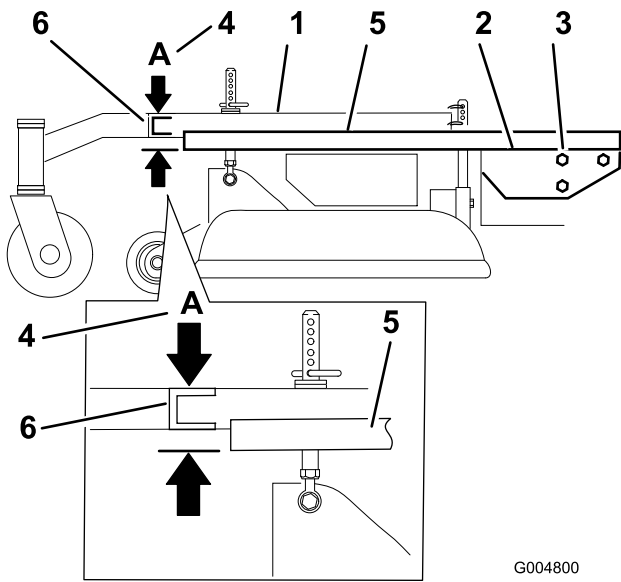

Figure 54
3. Place a long straight edge on top of the engine deck as shown in Figure 54.
4. At the carrier frame cross channel, measure the height at location **A** (Figure 54). This measurement must be 1-5/16 inch (33 mm), plus or minus a 1/4 inch (6 mm).
6. Loosen the carrier frame mounting bolts on both sides of the machine (Figure 54).
- Align the carrier frame and engine deck to match 1-5/16 inch (33 mm), plus or minus a 1/4 inch (6 mm) at location **A** (Figure 54).